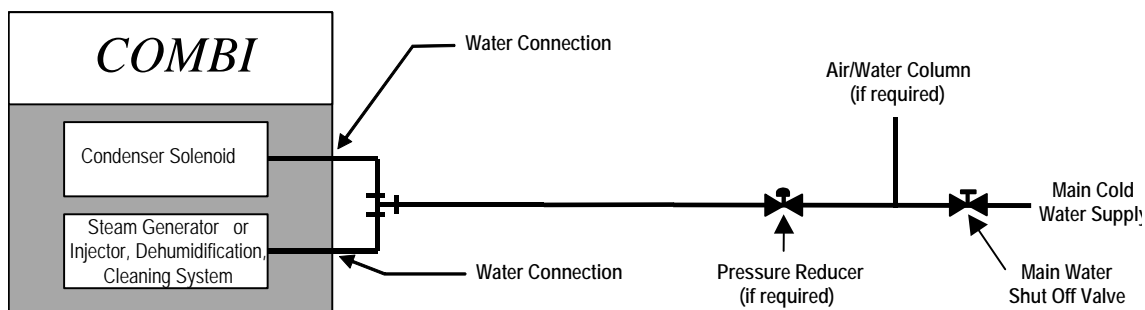

Figure 2-10 Cleveland Range Single Water Supply Arrangement
- 6) If water supply meets requirements shown in Table 2-3 then the Single Water Supply Arrangement shown in Figure 2-10 may be used.